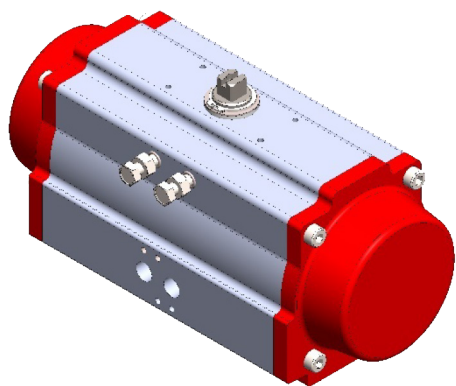

Figure 6: Releasing Lock Nuts
2. Release the lock nuts and unscrew both travel stops and seals, which are located at the top of the actuator body on the side. See figures 6 and 7.